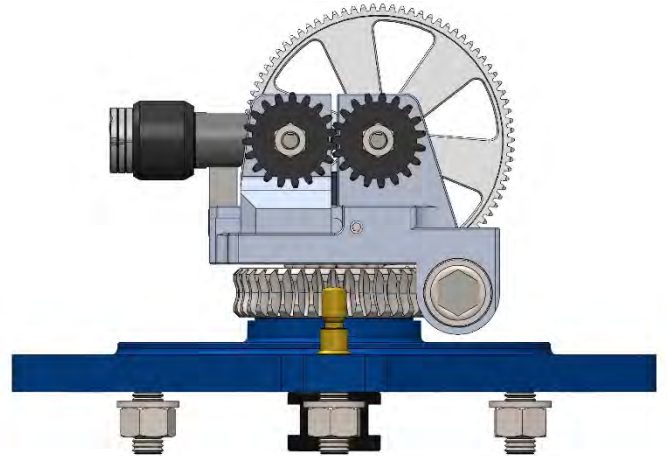

Figure 19
1. Remove the cover as explained in the previous chapter. Figure 19;